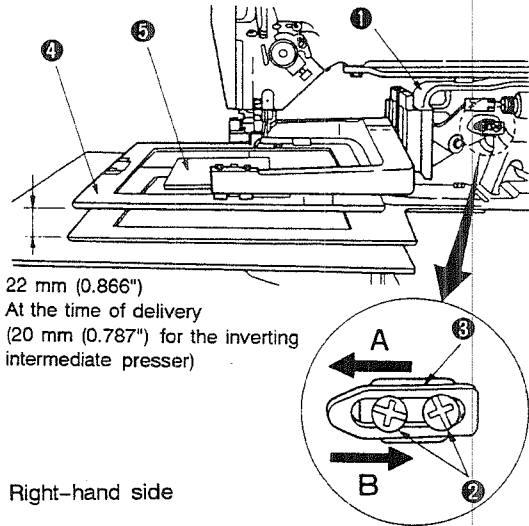
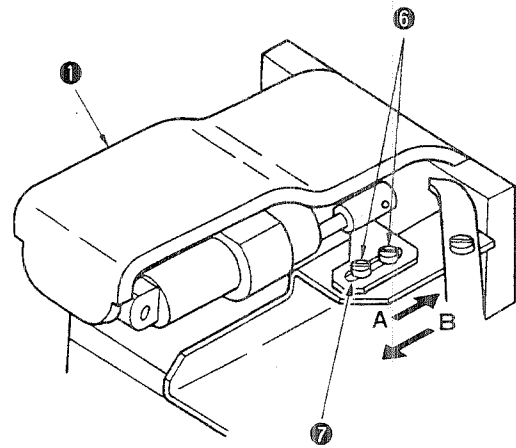

Fig. 4-2-1
Fig. 4-2-2
<p>1) Loosen screws ② in work clamp stopper (right) ③ which is located in the right-hand side of feed bracket ①. Shifting work clamp stopper (right) ③ to the side of arrow A will lower the height of feeding frame ④ or to the side of arrow B will increase it. (Fig. 4-2-1)</p> <p>2) After the adjustment of the height of the feeding frame, be sure to securely tighten screws ②. (Fig. 4-2-1)</p> <p>3) Loosen screws ⑥ in work clamp stopper (left) ⑦ which is located in the left-hand side of feed bracket ①. Shifting work clamp stopper (left) ⑦ to the side of arrow A will lower the height of inverting intermediate presser ⑤ shown in Fig. 4-2-1 or to the side of arrow B will increase it. (Fig. 4-2-2)</p> <p>4) After the adjustment of the height of the feeding frame (left), be sure to securely tighten screws ⑥. (Fig. 4-2-2)</p>	<ul style="list-style-type: none"> ○ If the lifting amount of the feeding frame is insufficient, the material may fail to be placed on the machine with ease. ○ If the lifting amount of the feeding frame is excessive, the material cannot be positioned with accuracy when setting it on the machine.